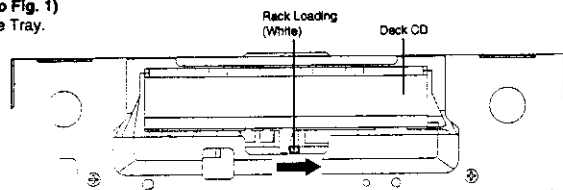

Fig. 1
1. Remove the Back Cabinet and AV PCB/DVD Block. (Refer to item 1 of the **DISASSEMBLY INSTRUCTIONS**.)
2. Slide the Rack Loading (White) toward the arrow direction by using a minus driver to release the lock. (Refer to Fig. 1)